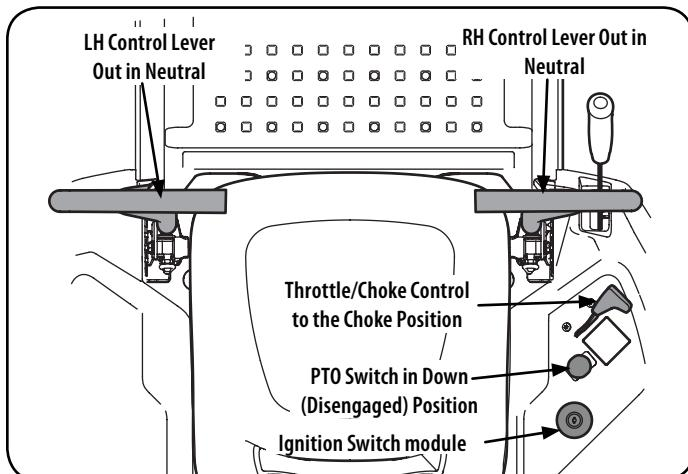

Figure 8
- Make certain the PTO switch is in the disengaged (down) position. Refer to "Figure 8".